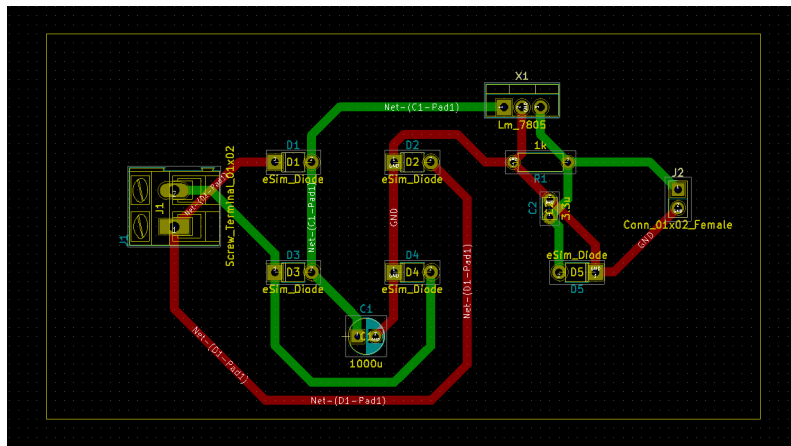

Figure 12.20: All tracks placed
5. Similarly, all the tracks have been placed as shown in Fig. 12.20. Please note that tracks shown in green color are on B.Cu. layer whereas the tracks in red color are placed on the F.Cu. layer.